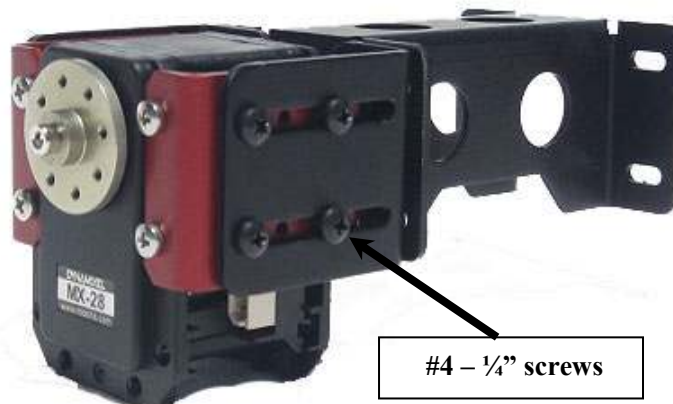

Figure 61
4. Using (8) #4 1/4" screws, install the assembly from step 1 to the assembly in step 2 as shown in figure 61. (Install the #4-1/4" screws into the Pem nuts on the MX bracket).